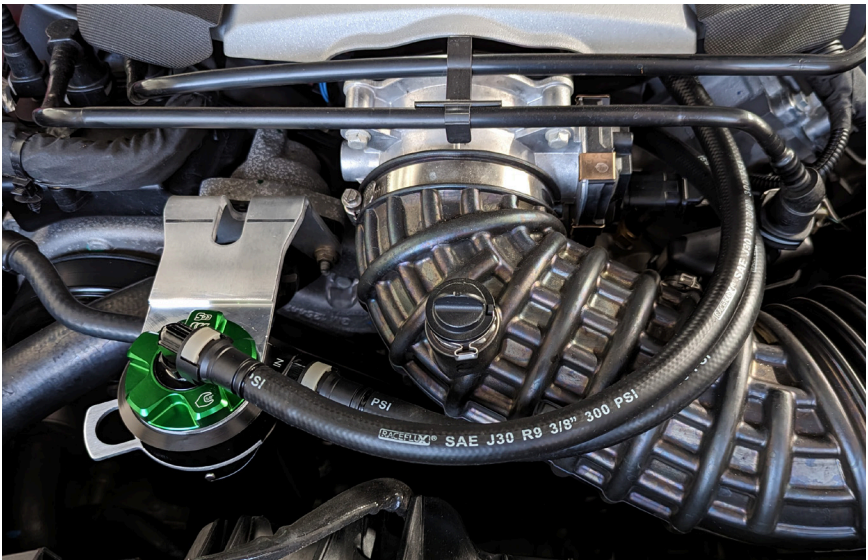

Figure 3 - Catch Can Installed
7. Install the catch can as shown in Figure 3.